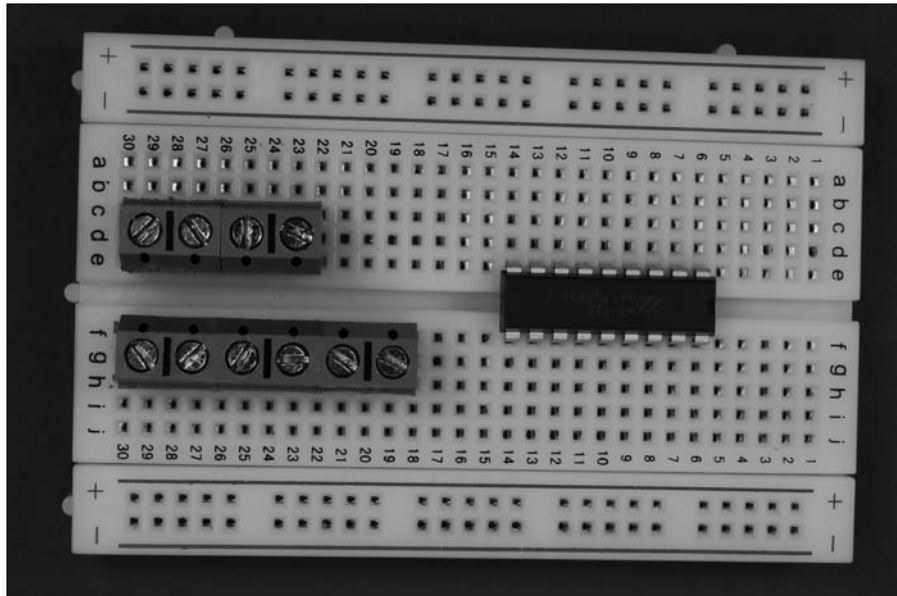

Figure 13-7: Place the IC and terminal blocks on the breadboard.
1. **Place HT12E (IC1) and five terminal blocks on the breadboard, as shown in Figure 13-7.**